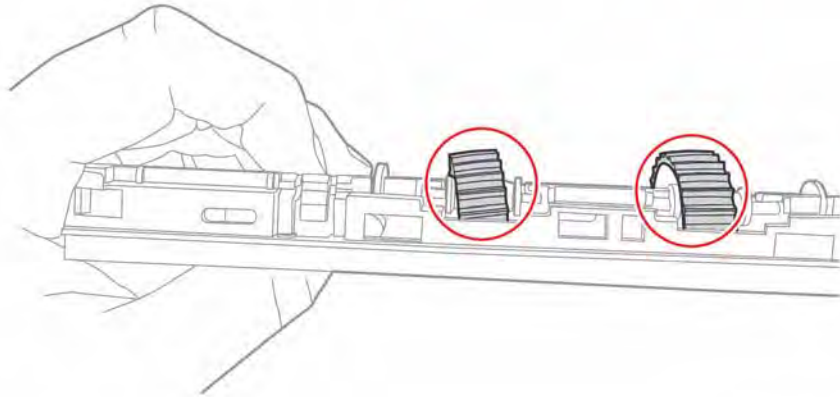

Figure 8 Idle rollers
5. Remove the belts from the frame by removing the idle roller (Figure 8).